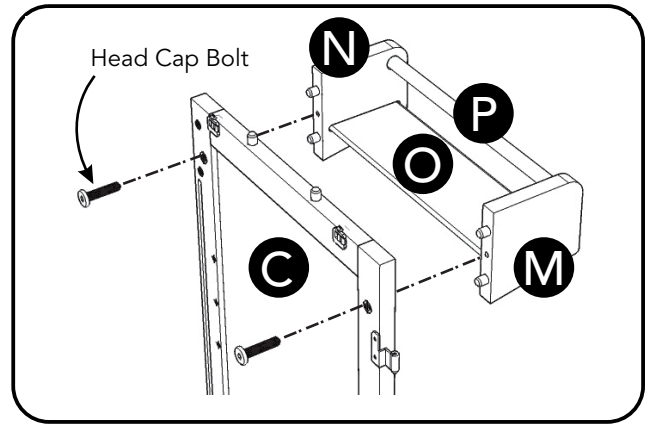

Figure 4
Assemble Side Racks (M), (N), Base Rack (O) and Rack (P), then attach to Side Panel (C) with Head Cap Bolts. (See Figure 4)